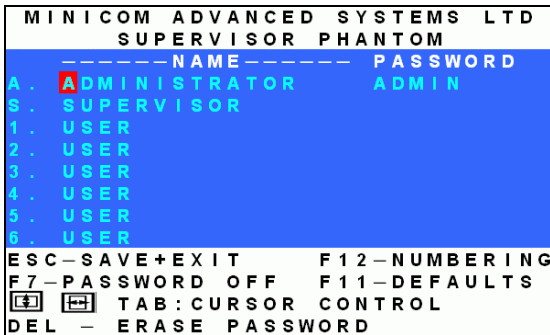

Figure 17 The Password window
3. Press **Enter**. The Password window appears. See Figure 17.. The first row marked **A** is for the Administrator name and password and the second row marked **S** is for the Supervisor name and password.
Set the 6 User profiles access levels from the OSD Setup window (**F3**). See Figure 18. The 6 User Profiles correspond to the 6 Users in the Password window see Figure 17 above.